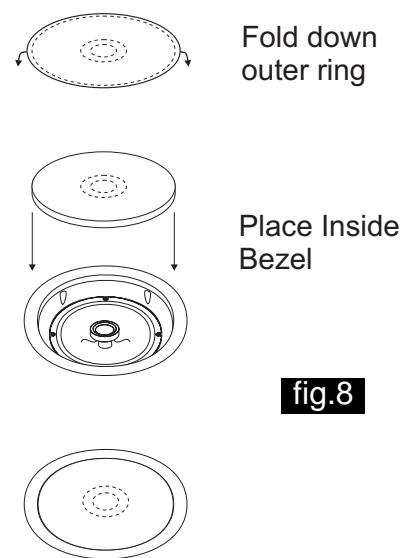

fig.8
1. Paint the outer ring of the speaker assembly and the grille at the same time using the same paint. Use the supplied paint shield to protect the driver and inside of the speaker assembly from overspray. Fold the edge of the shield down and insert it into the groove in the speaker assembly where the grille attaches (fig. 8). Be careful not to punch through the round hole in the middle.